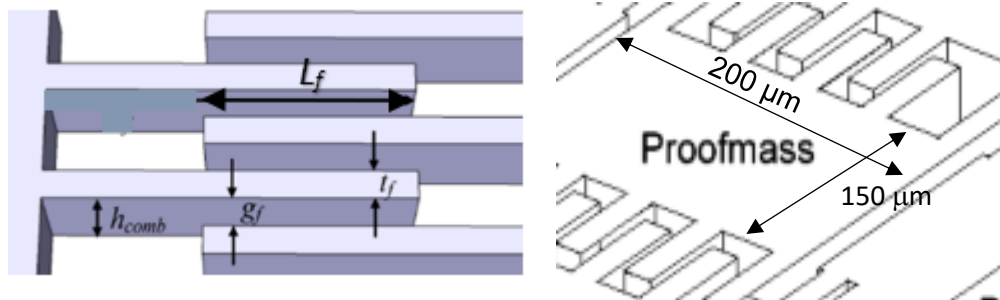

Figure 3
- (ii) Calculate the value of capacitance at the sensing electrode for Figure 3 when the acceleration is zero. Use the following data.
The dimensions are given in Figure 3.